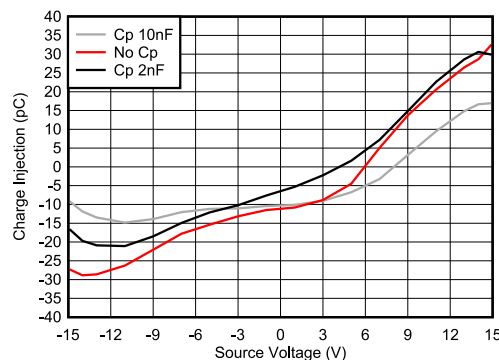

Figure 8-3. Charge Injection Compensation
The TMUX6219 contains specialized architecture to reduce charge injection on the source (Sx). To further reduce charge injection in a sensitive application, a compensation capacitor (Cp) can be added on the drain (D). This will ensure that excess charge from the switch transition will be pushed into the compensation capacitor on the drain (D) instead of the source (Sx). As a general rule, Cp should be 20x larger than the equivalent load capacitance on the source (Sx). Figure 8-3 shows charge injection variation with source voltage with different compensation capacitors on the Drain side.